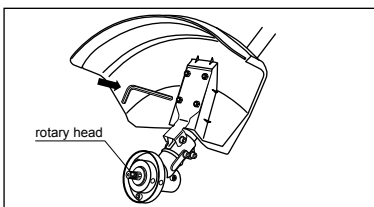

fig. 5
- Secure the protective cover onto the mounting plate with the bolts with washers using a hex wrench (fig. 5).